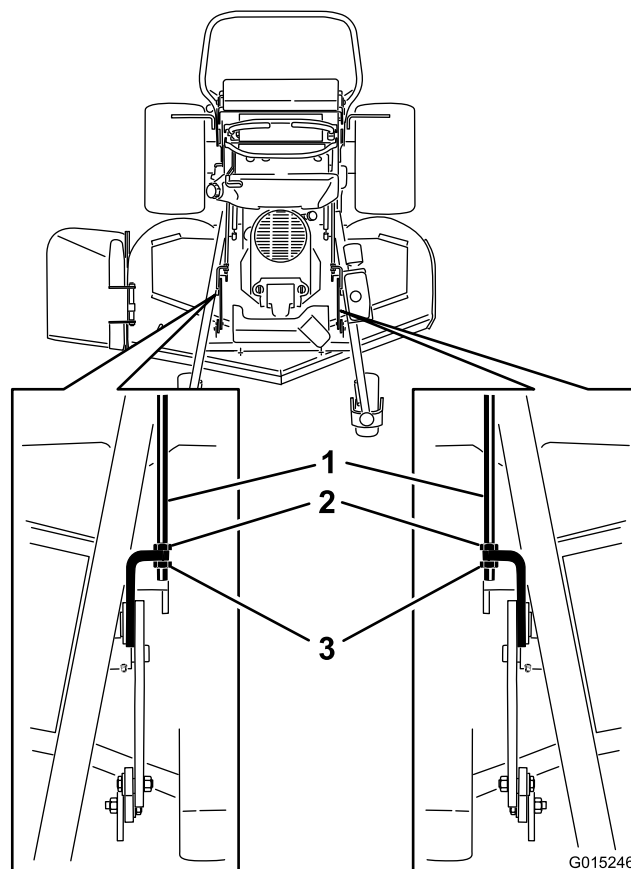

Figure 88
8. If the dimensions are not correct, adjust the front and rear nuts on either side to get the correct front-to-rear pitch (Figure 88).
2. For 48 and 52 inch mower decks, loosen both the front and rear nuts on the adjustment rods (Figure 88).
4. The weight of the mower deck must be resting on all three of the 2x4's (Figure 88). The back lip of the